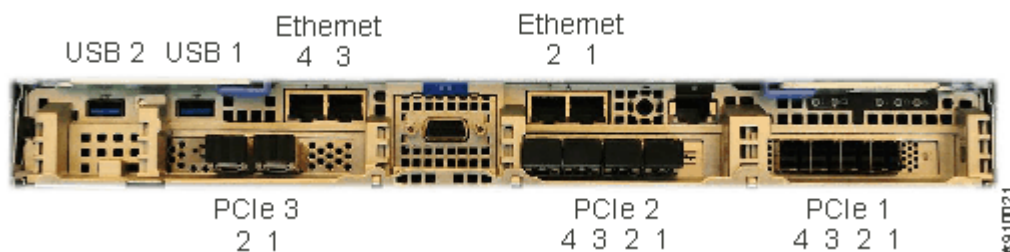
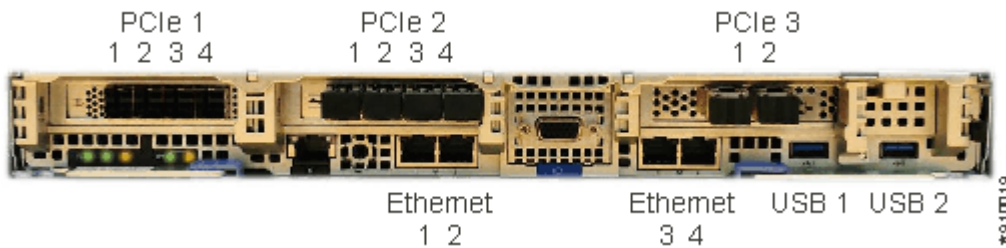

Figure 55. Ethernet ports on canister 1 (upper canister)
Figure 56. Ethernet ports on canister 2 (lower canister)
1. Connect Ethernet port 1 of each node canister in the system to the IP network that provides connection to the system management interfaces, as shown in Figure 55 on page 96 and Figure 56 on page 97.